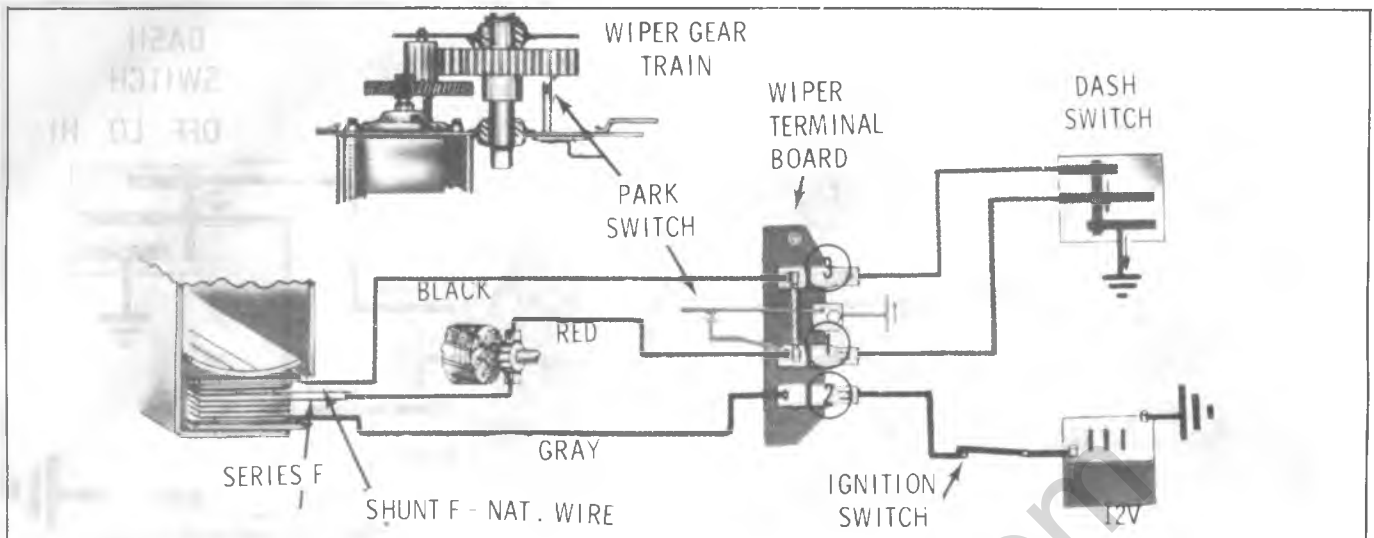

Fig. 8-39--LO Speed Circuit
No. 1 to the wiper switch and (2) the second part passes through the shunt field to ground through wiper terminal No. 3 to the wiper switch (fig. 8-39).